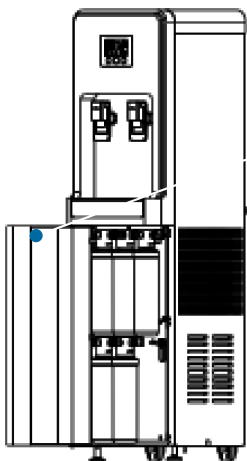

Figure 3 · Open the front door on the right side, not on this side
7. Before you connect the appliance, check that all filters are tight (Figures 3 to 5).
2. Open the front door on the right side of the appliance (Figure 3).